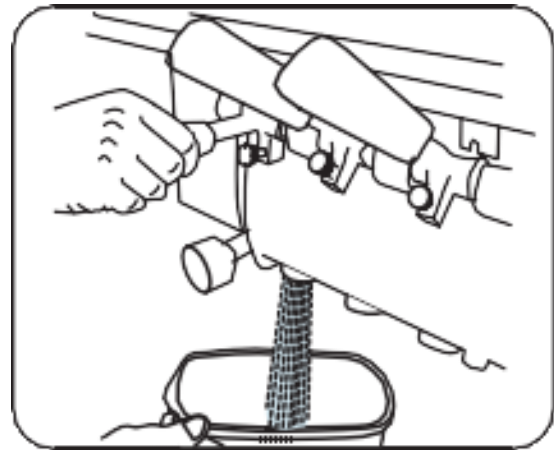

Figure 52
4. Remove the soft serve liquid from the hopper by placing a bucket under the spout and opening the draw handle. Melted product will begin flowing into the bucket. (Figure 52)